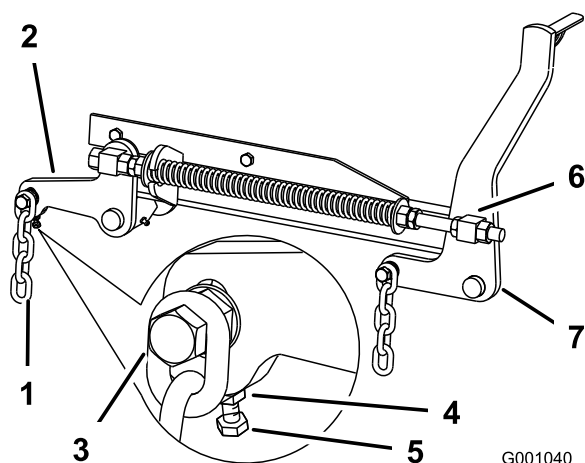

Figure 81
7. If the measurements at positions **B** or **C** are not correct, loosen the bolt attaching the rear chain to the rear support arm (Figure 81).
8. Loosen the jam nut under the rear support arm and adjust the adjustment bolt to get a measurement of 3-1/8 to 3-1/4 inches (80 to 83 mm) (Figure 81).
7. Loosen the front swivel jam nuts, at the front of the right and left swivels, approximately a 1/2 inch (13 mm) (Figure 81).
8. Adjust the lift nuts on both the left and the right side of the machine to achieve 1/4 to 3/8 inch (6 to 10 mm) lower in front at **A** than in the rear at **B** (Figure 81).